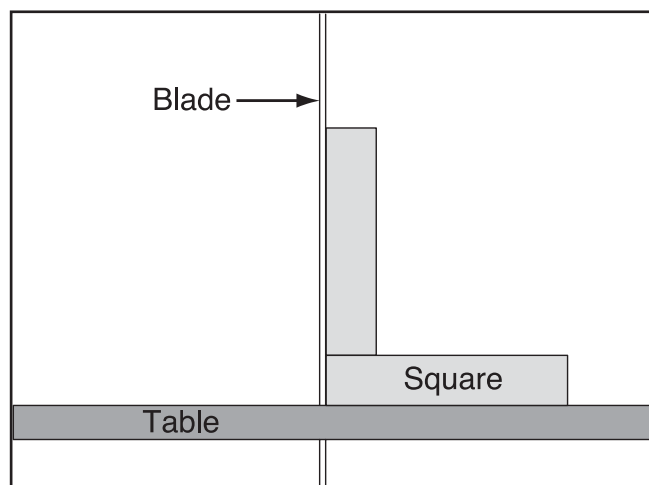

Figure 63. Checking side-to-side table tilt with blade.
3. Place the square on the table and up against the side of the blade (not against the teeth), as shown in **Figure 63**. The square should rest evenly on the table and up against the blade.